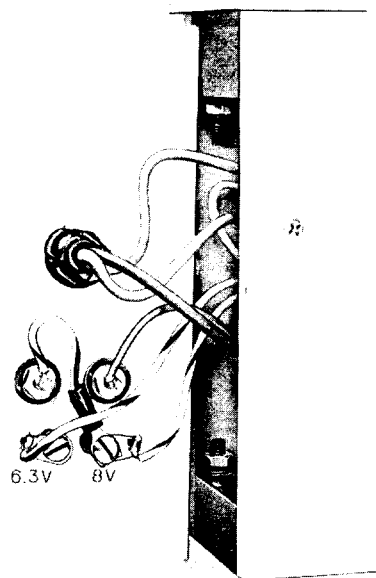

Fig. 10—Movable Lead Connected to 8-Volt Tap, KS-16940L1 V.R. Transformer With Cover Open
4.03 Output taps of 6.3 and 8.0 volts are located on back of cover as shown in Fig. 10. The transformer is shipped with movable lead connected to 6.3-volt tap.